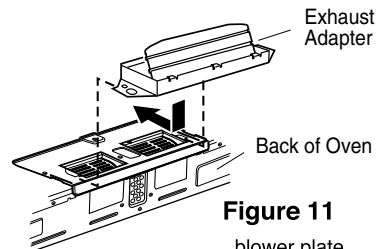

Figure 11
1. Insert one side of exhaust adaptor and attach with the one tapping screw on the other side of exhaust adaptor to the blower plate. See Figure 11.